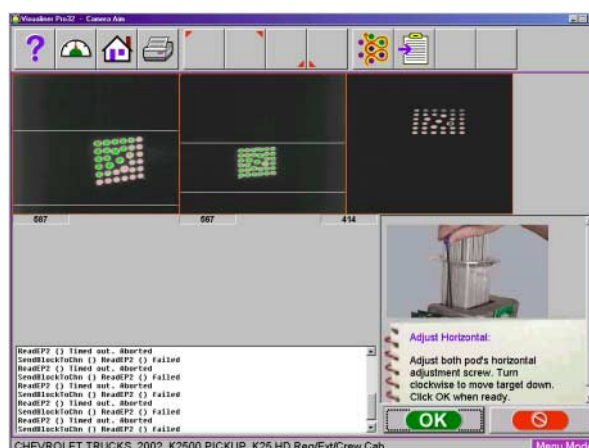

Figure 21
9. Make sure that both camera pod rotation levers on the bottom of the cameras are set in the middle of their travel and that the each camera pod starts in a level position. If the cameras are not aligned within the Horizontal lines (Figure 21 ) adjustments to the camera can be made by adjusting the hex head cap screw on the camera pods. Press "OK" to continue.